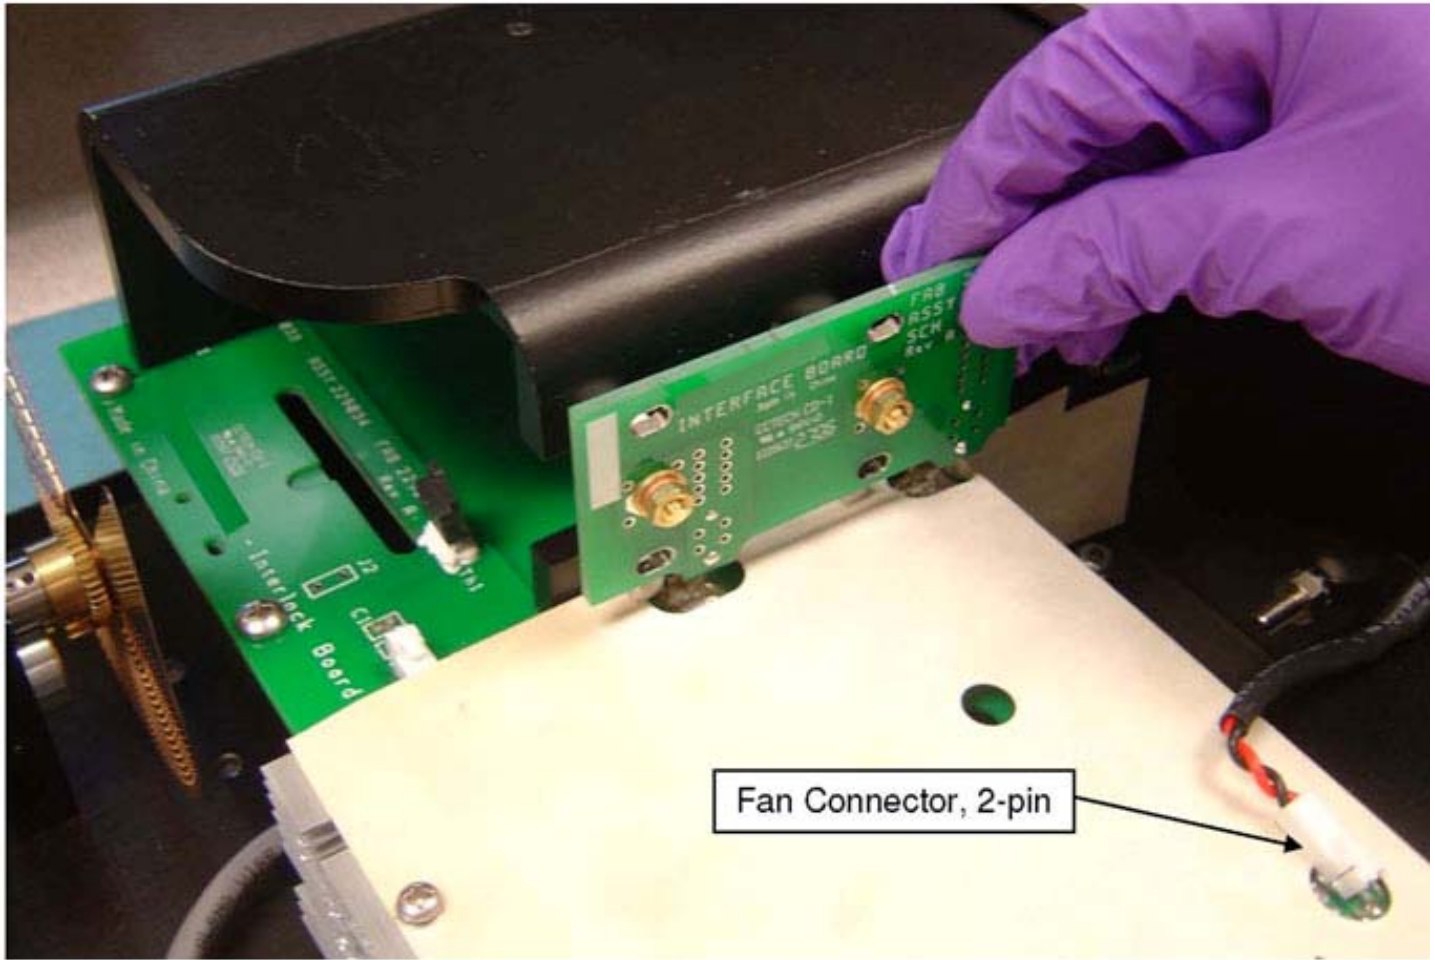

Figure 19
2. Remove the interface board by pulling it up – Fig. 19.
3. Disconnect the 2-pin fan connector – Fig. 19.